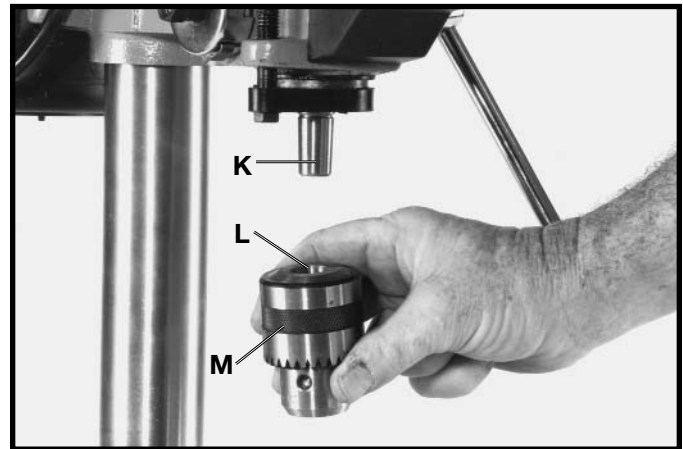

Fig. 9
6. **IMPORTANT:** Make certain the spindle taper (K) Fig. 9, and tapered hole in chuck (L) are clean and free of any grease, lacquer or rust preventive coatings. **NOTE:** Household oven cleaner can effectively remove any substance from the spindle and chuck; however, carefully follow the manufacturer's safety rules concerning its use.